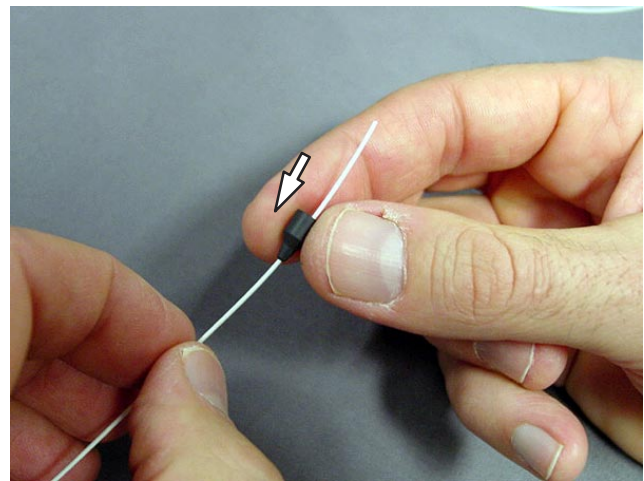

Figure 7
5. (Optional) Slide boot on the cable with the small end first, as shown in Figure 7. Repeat for second end.